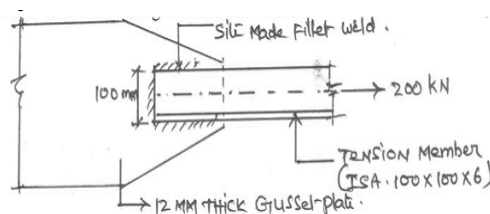

Figure 2
- Design a suitable site made fillet weld to connect tension member with gusset plate as shown in Figure 2. Check the strength of weld at failure. [7M]